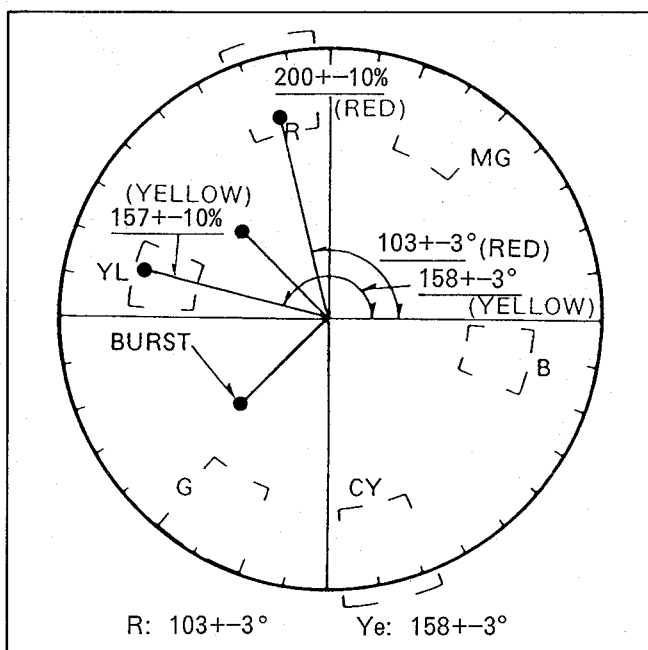

Fig. C30
21. Repeat the 3 to 20 until vectors become within spec as shown Fig.C30.